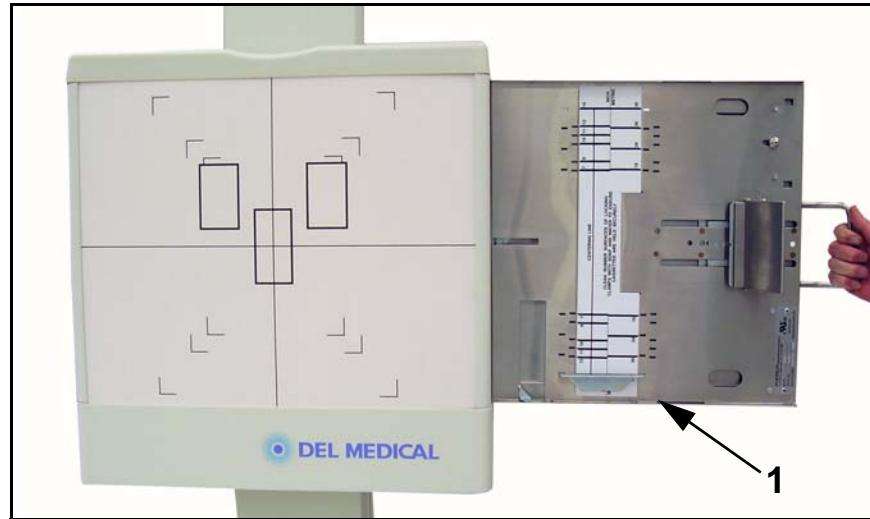

Figure 3-2. Cassette Tray
- 1 Manually pull cassette tray (1 in Figure 3-2) out as far as it will go.